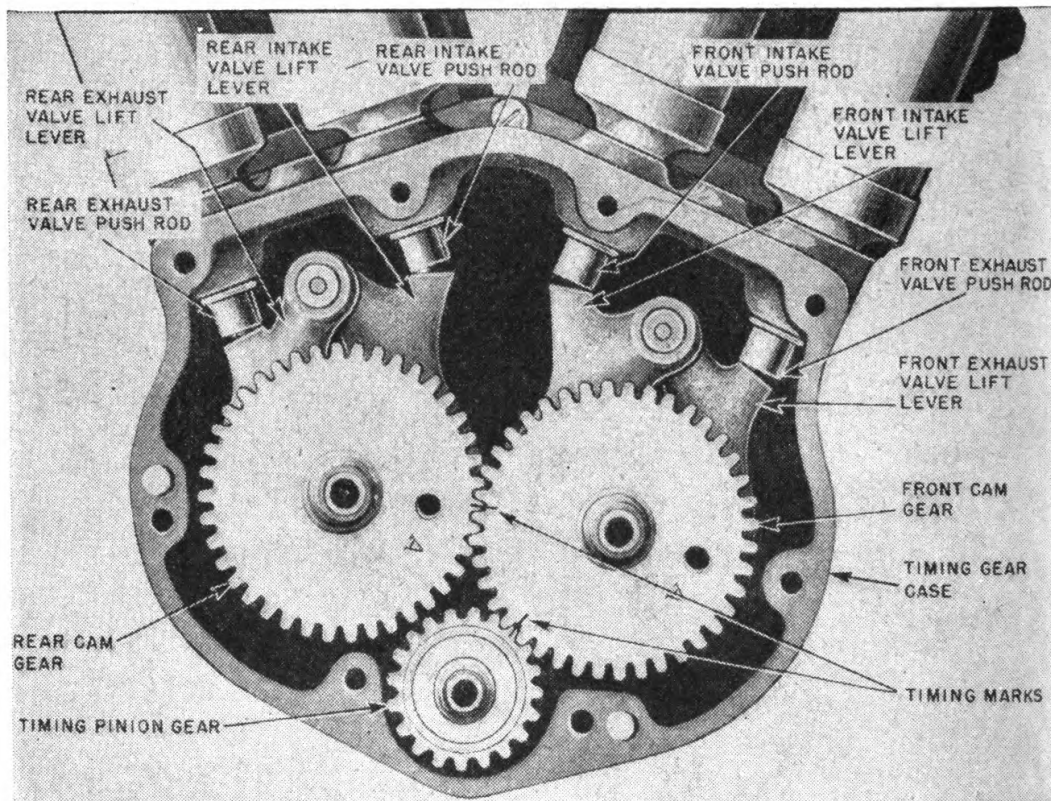

FIGURE 63.—Valve-lifting mechanism and timing gear train of Indian.
a. The Indian military motorcycle engine (fig. 63) employs two cam gears. Each cam operates the inlet valve and exhaust valve of one
e. Every engine, regardless of make or model, is assembled with marked gears (fig. 63) to facilitate timing when making engine repairs or adjustments. The timing pinion gear either is mounted directly on the flywheel shaft or is driven from this shaft through a stub shaft. Regardless of diameter, the pinion gear will have half as many teeth as the cam gears. (It operates at twice the speed of the cam.) The pinion gear is keyed to the flywheel shaft so that it cannot get out of time and is the master gear. Timing gears require very little attention. If they become noisy, it may be desirable to replace them when the engine is overhauled. Loose and exceptionally noisy bushings must be replaced promptly to avoid damage to the crankcase.